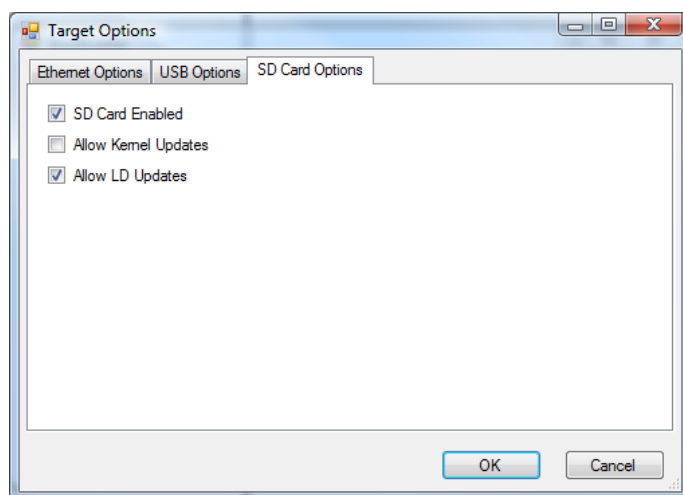

Figure 2-26 - SD Card Options
8. Click the **TARGET OPTIONS** button. The Target Options window will open. There will be three tabs in this window. Click the **SD CARD OPTIONS** tab. See Figure 2-26.